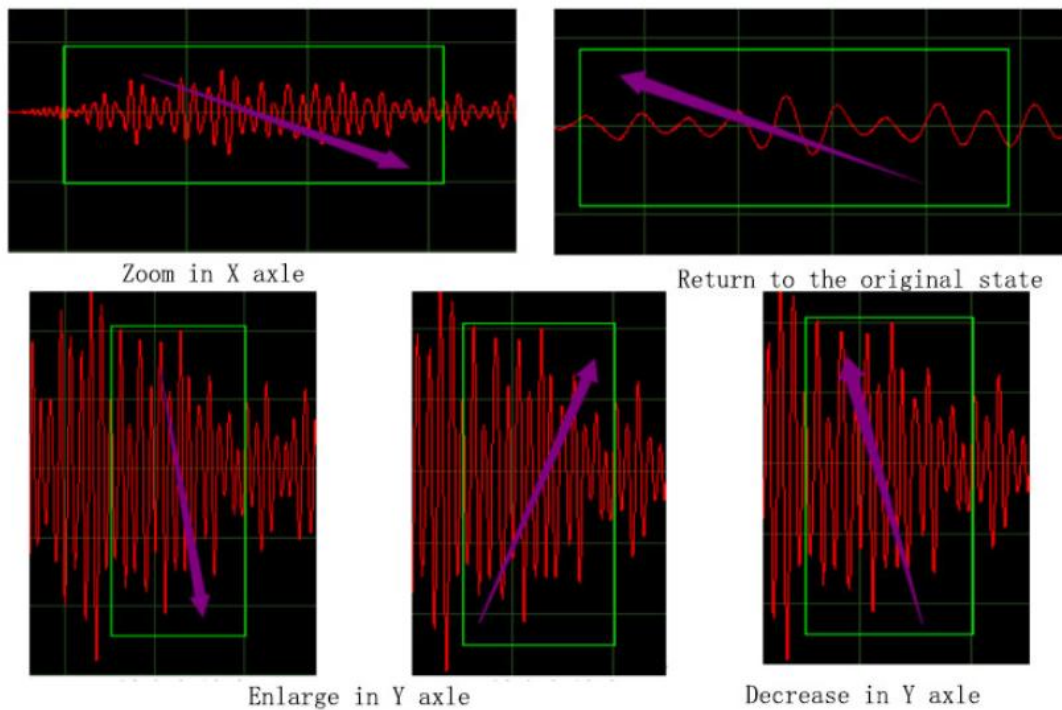

Fig. 6-48 Mouse Operation Diagram of Waveform
- **View mouse operation:** The scaling of the waveform can be accomplished with the help of the mouse operation by drawing the rectangle on the waveform. The scaling area is the area within the rectangle, as illustrated by the Figure 6-48 below.
**Waveform zooming:** The mouse operation is similar to that in Waveform View. For details, see Figure 6-48;